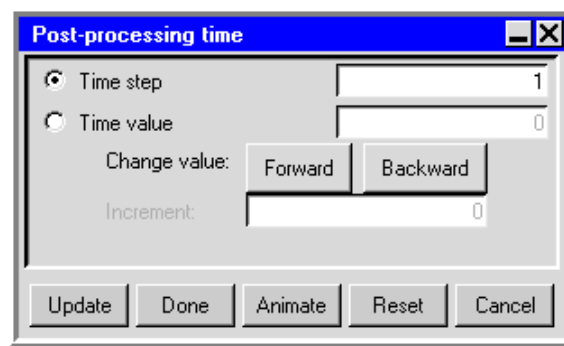

Figure 20.3.1: The Post-processing time Panel
You can examine the results at a particular time step or value (a “snapshot”) using the Post-processing time panel (Figure 20.3.1). To open this panel, select **Transient settings** in the **Post** menu or click on the  button in the **Postprocessing** toolbar.
2. Specify either a single time value or a particular time step in the transient simulation to be used for the snapshot. To specify a single time value, select **Time value** in the **Post-processing time** panel (Figure 20.3.1) and enter the value. To specify a particular time step, select **Time step** in the **Post-processing time** panel and enter the time step.
You can create an animation of the results for your transient simulation using the Post-processing time panel (Figure 20.3.1). To open this panel, select **Transient settings** in the Post menu or click on the  button in the Postprocessing toolbar.
2. Select Time value in the Post-processing time panel (Figure 20.3.1).